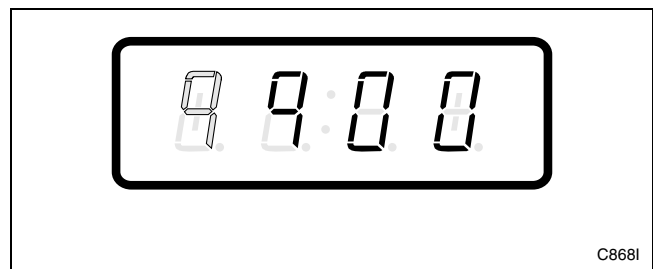

Figure 205
6. Press the START (enter) keypad to enter the fifth digit and display remaining four digits. The active digit will flash one second on and one second off. Refer to *Figure 205*.